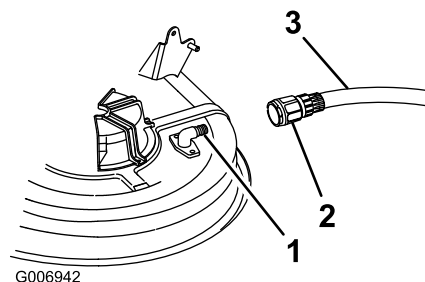

Figure 54
- Attach the coupling (not included) to the mower washout fitting and turn the water on high (Figure 54).